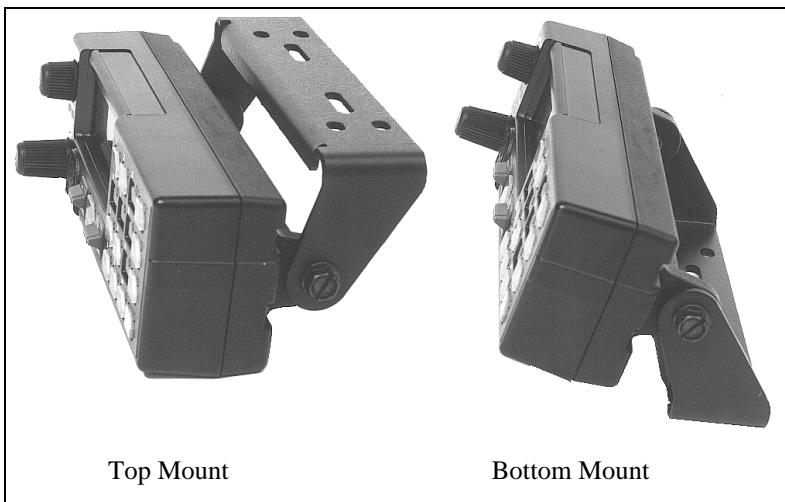
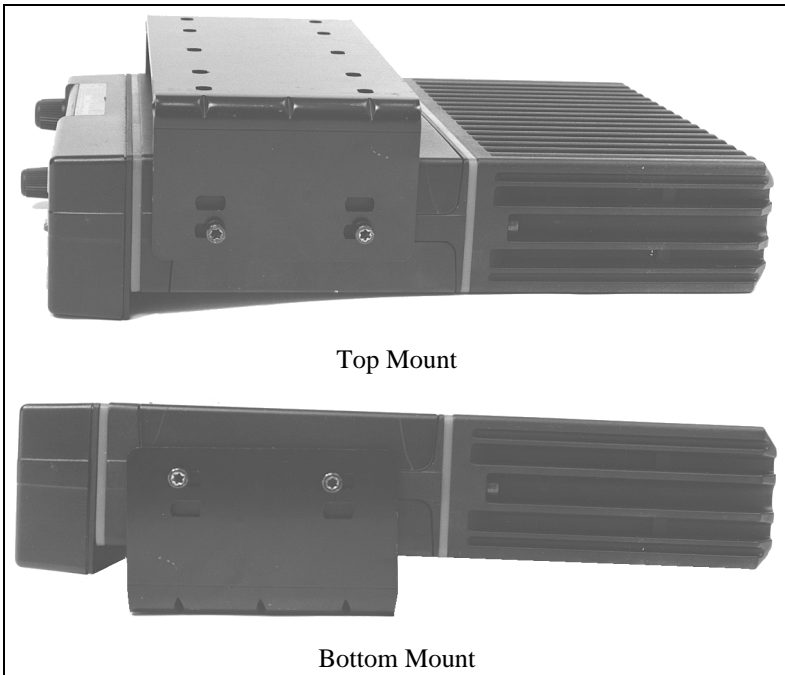
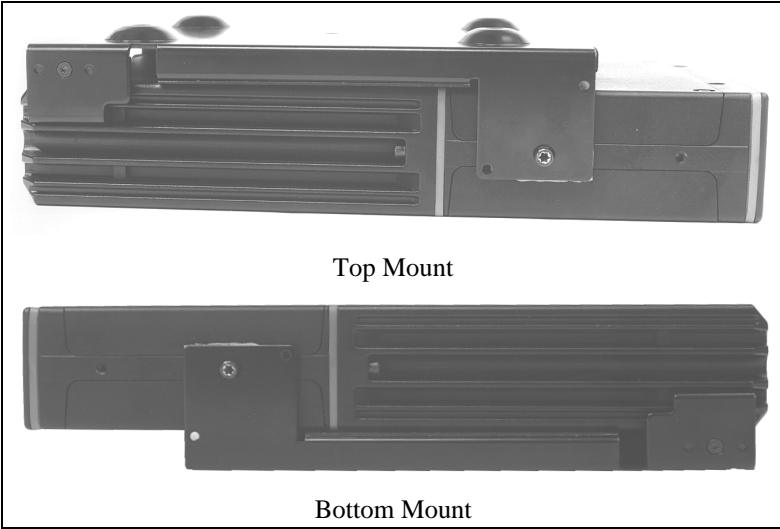

Figure 24 - Control Unit Mounting Bracket Installation
Figure 26 - Mounting Bracket Installation
Figure 27 - Remote Mounting Bracket Installation
1. Using the bracket as a template, mark and drill the mounting holes. Be sure to leave enough room at the rear of the control unit for the cable connector. Refer to Figure 24 for control unit mounting bracket installation.
Typically the bracket shown in Figure 26 is used for Front Mount applications. The bracket can be mounted so that it is either above or below the radio for the user's convenience. The bracket pictured in Figure 24 can also be used for Remote Mount application but is **not recommended for 110 watt VHF radios or 100 watt UHF radios.**
The following instructions are for a Front Mount installation using the bracket shown in Figure 26.
The bracket shown in Figure 27 is used for Remote Mounting (USA Only). In some applications the bracket shown in Figure 26 can also be used for Remote Mounting. The following instructions are for a Remote Mount installation using the bracket shown in Figure 27.
3. Slide the radio unit into the bracket by aligning bracket guides with grooves on each side of radio (rear of radio should be inserted first). Slide radio back until screw holes in front of bracket align with screw holes in side of radio. See Figure 27.